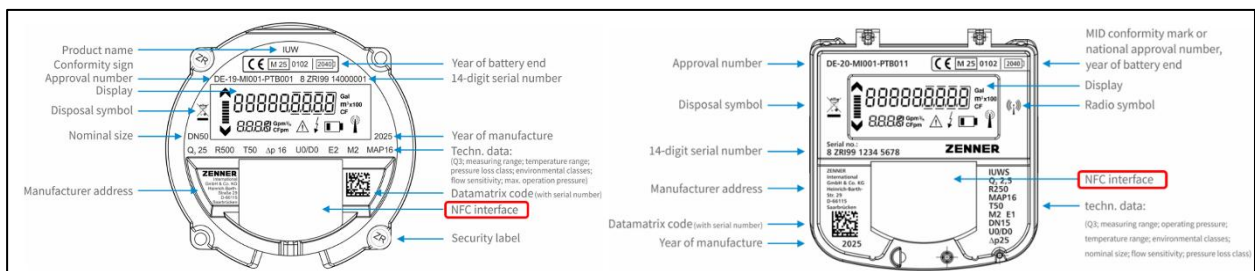

Figure 1: Position of the NFC Interface for IUW (left) and IUWS (right)
- Place your android device near the NFC interface of the meter (see Figure 1)